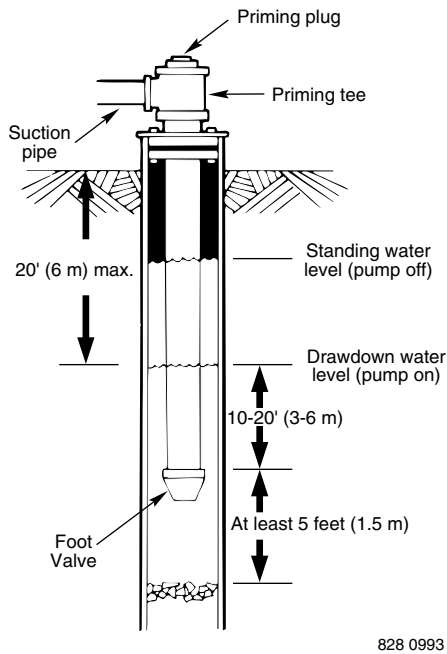
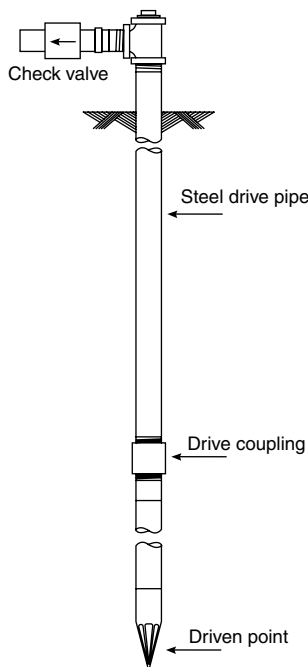

Figure 1: Cased/Dug Well Installation
Figure 2: Driven Point Installation
5. When using a foot valve, a priming tee and plug as shown in Figure 1 are recommended.
1. Connect the suction pipe to the drive point as illustrated in Figure 2. Keep horizontal pipe run as short as possible. Use PTFE pipe thread sealant tape on male pipe threads. Multiple well points may be necessary to provide sufficient water to pump.
2. To aid priming on well point installations, install a line check valve as shown in Figure 2. Be sure check valve flow arrow points toward pump.
NOTICE: For long horizontal pipe runs, install a priming tee between check valve and well head as shown in Figure 1. For driven point installations, install a check valve as shown in Figure 2. Be sure check valve flow arrow points **toward** pump.